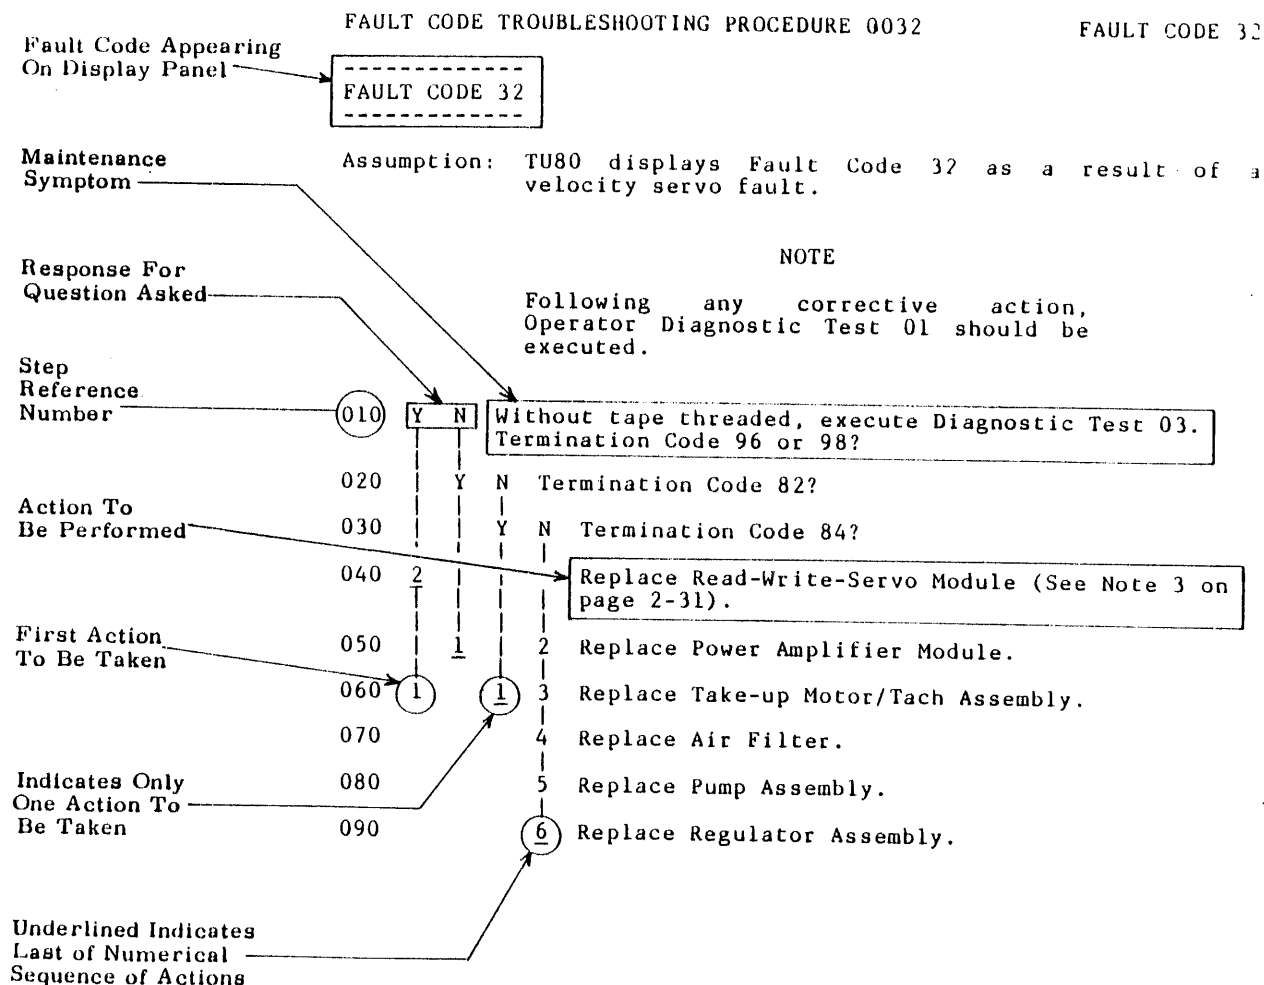

Figure 1-1. EXAMPLE OF FAULT CODE TROUBLESHOOTING PROCEDURE
After a fault code appears on the display, reference the fault code number directly to the corresponding number of the troubleshooting procedures listed numerically on subsequent pages. The basic troubleshooting procedure format (Figure 1-1) uses YES (Y) or NO (N) responses to sequential conditions to lead maintenance personnel to appropriate corrective action.